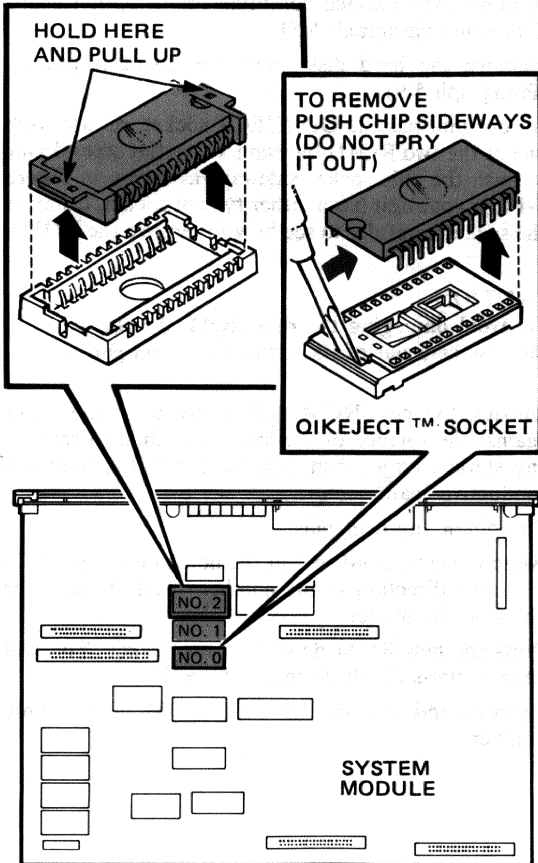

Figure 5-14 ROM Removal on PC100A
If your system module has a QIKEJECT™ chip socket, as shown in Figure 5-14, it will break if you pry the chip up out of the socket. Use a screwdriver to push the chip sideways instead.
5. If your unit has the QIKEJECT socket, release each one of the two ROMs by using a tiny flat screwdriver to push the chip socket sideways as shown in Figure 5-14. If your unit has another type of socket, examine the socket carefully to see how to remove the ROMs.
2. To remove the old ROM, pull it up as shown in Figure 5-14. You will have to pull hard.